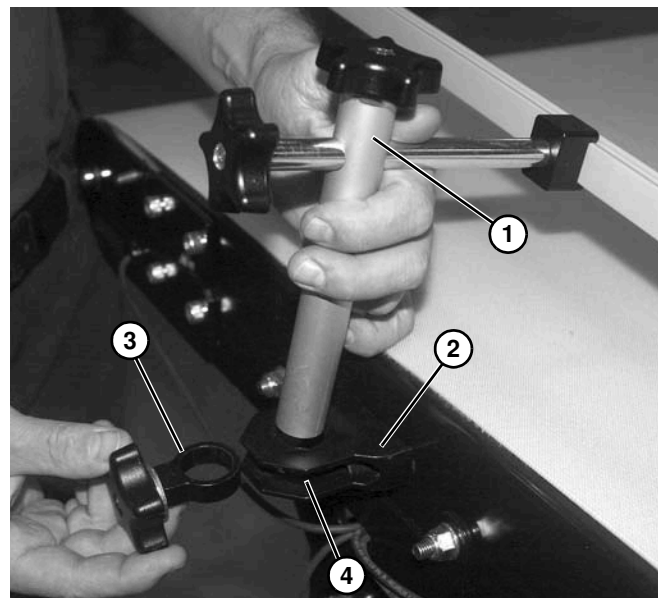

Figure 49
6. Secure adjustable clamp assembly (**Figure 49, item 1**) onto mounting bracket (**Figure 49, item 2**), with bottom clamp (**Figure 49, item 3**) installed into slotted area (**Figure 49, item 4**) of mounting bracket.